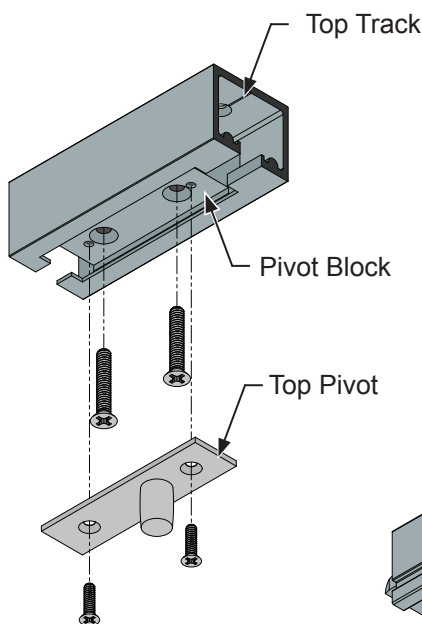

FIG. 1
1. The top track assembly is packed complete with top pivot, pivot block, and roller assemblies installed. Remove the top pivot(s) from the pivot block(s). This will expose the temporary screws holding the pivot blocks to the top track. Remove these screws and discard them. **(Fig. 1)**